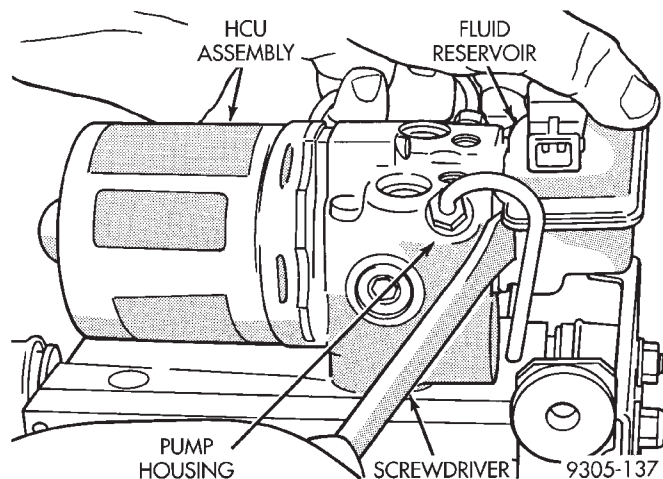

Fig. 3 Remove Fluid Reservoir From (HCU)
(4) Insert a screwdriver between pump housing and reservoir (Fig. 3). Carefully pry fluid reservoir off of (HCU) assembly.